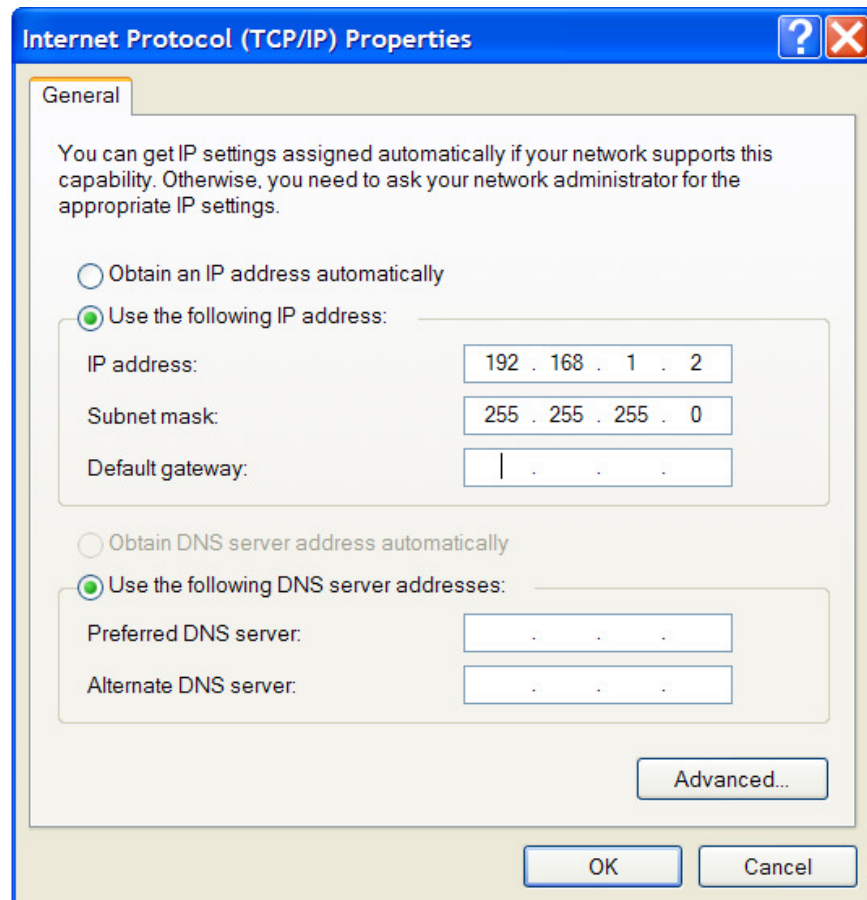

Figure 10, Network Configuration Example
- i. Connect the PC's Ethernet port to the SHoW DMX Transmitter's Management RJ 45 Jack using an RJ45 Cross-Over Ethernet Cable Address your PC to a Static IP address that is within the current Subnet of the Transmitter. For example, if the Transmitter is addressed as 192.168.1.101, subnet 255.255.255.0, you could set your PC to Static IP 192.168.1.2 with subnet 255.255.255.0 (see Fig. 10 below):